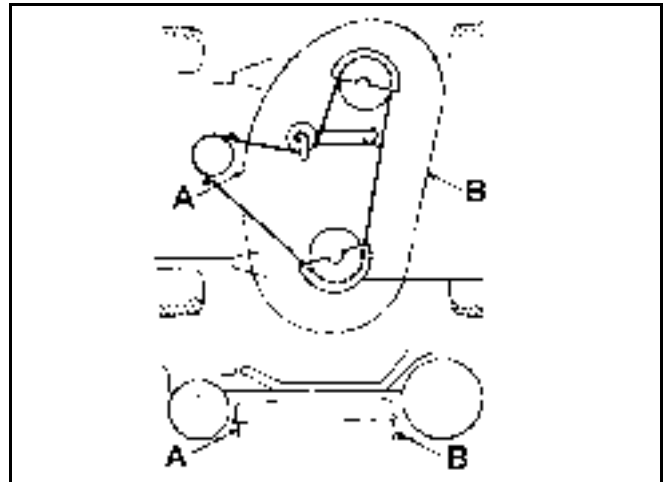

Figure 225
6. Check the front to rear slope by measuring between the bottom of the mower (front center and rear center) and the flat surface (Figure 225). If the front is not within a range of 1/8" - 3/8" (3mm - 9mm) lower than the rear, an adjustment is required.